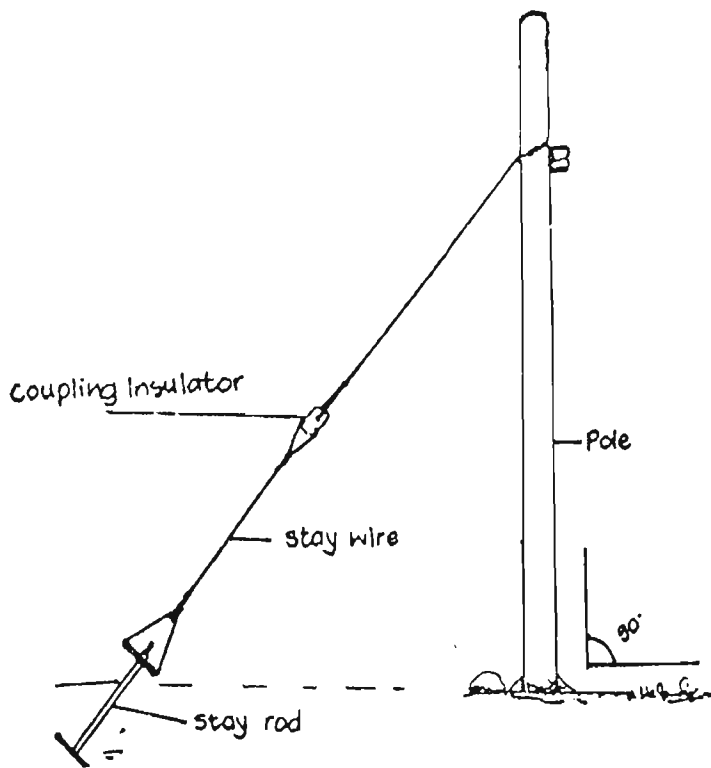

Figure 6.3: Erection of Stay Wires
- Install stay wires on the poles at every bend, on the first and last pole, and on poles with a jumper (Figure 6.3).